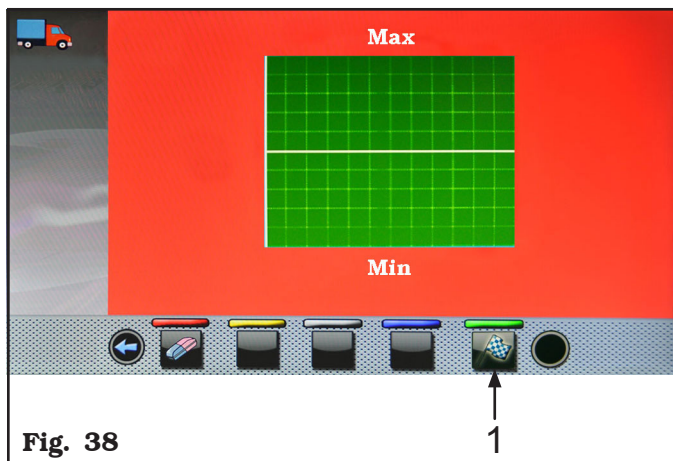

Fig. 38
Press the green button (Fig. 38 ref. 1) to start the rim analysis procedure.